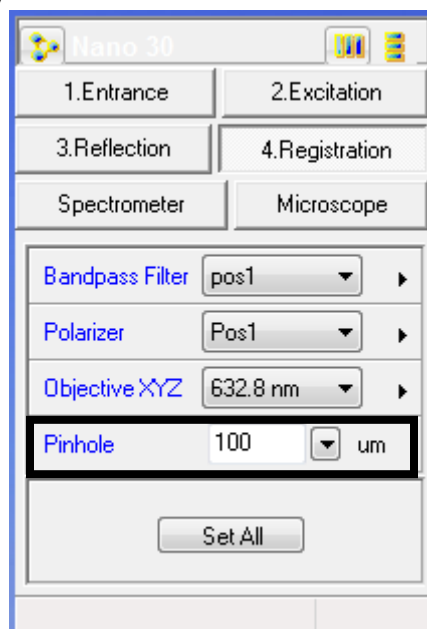

Figure 6: Registration setting menu
- Next we can also control signal strength and peak width by adjusting the pin hole under the Registration tab (Figure 6).